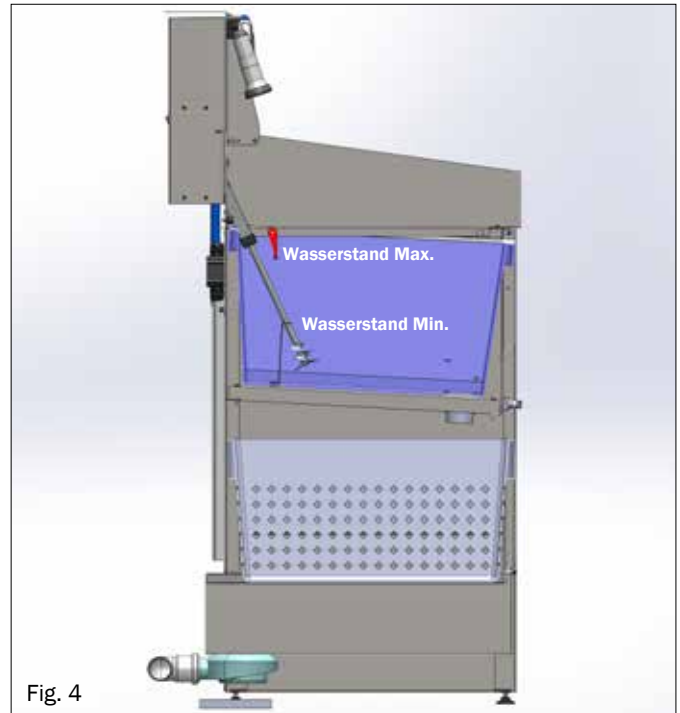

Fig. 4
- Cleaning the rollers in the roller pre-wash basin (included in the ColorFree top set) (9) Fig. 4
Before the wash water can be treated during further operation, a minimum water level must be present (min. water level) Fig. 4.
See Figure 4. The basin is attached to the mounting pins at an angle of approximately 20° using the mounting hooks (9).